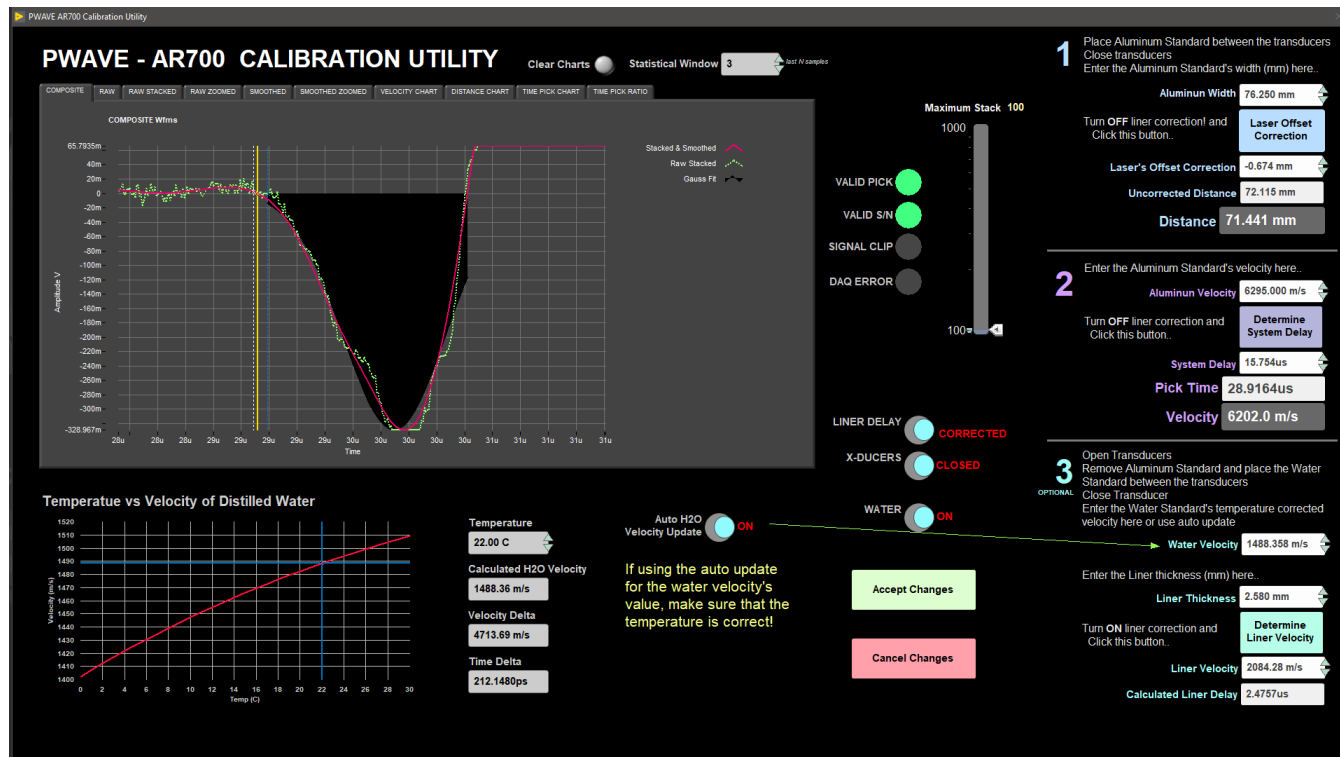

Figure 7. P-Wave Calibration Utility.
1. In the **Instrument** menu, select **PWAVE: Calibrate-Utility** and the **PWAVE Calibration Utility** window will open (Figure 7).
Use the Stack slider in the **PWAVE CalibrationUtility** window to adjust the measurement parameters to obtain a better waveform (Figure 7). These parameters may need to be adjusted if the section material has changed.